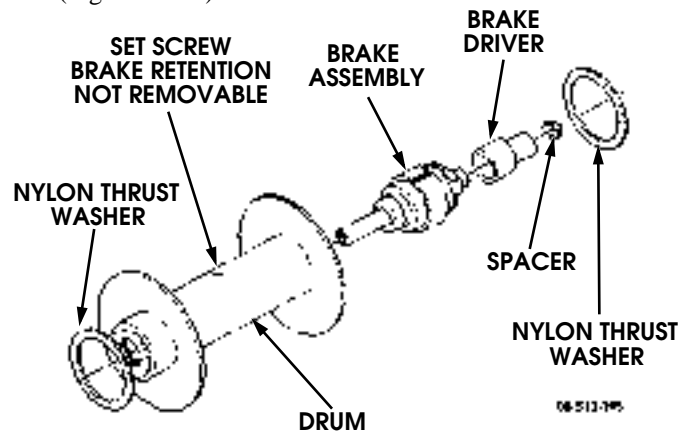

Figure 9-191: Thrust Washers and Brake
10. Remove two nylon thrust washers from drum (Figure 9-191).
12. Push brake through open end of drum and remove (Figure 9-191).